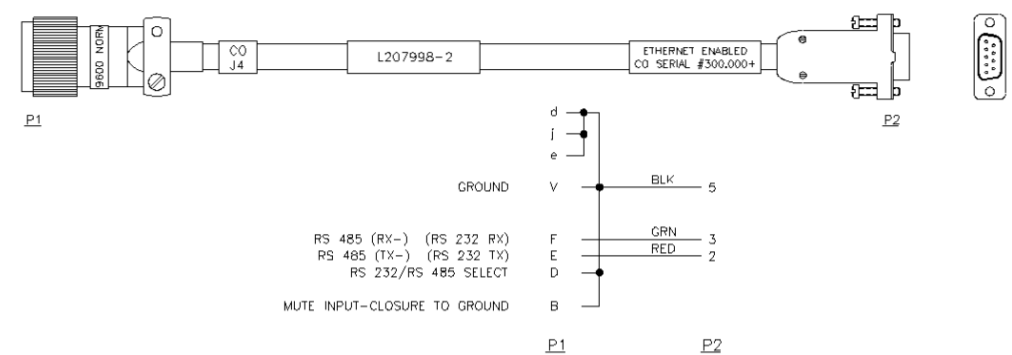

Figure 2: Quick-Start Cable, RS-232 (207998)
Customers may request a Quick-Start cable configured for RS-232 communications and fitted with 9-pin D-sub connector as shown in Figure 2.
5. Connect the supplied Quick-Start Control Cable from Port J4 of the SSPA to one of the COM ports on your computer. This connection will unmute the amplifier. Review the cable schematic in Figure 2.